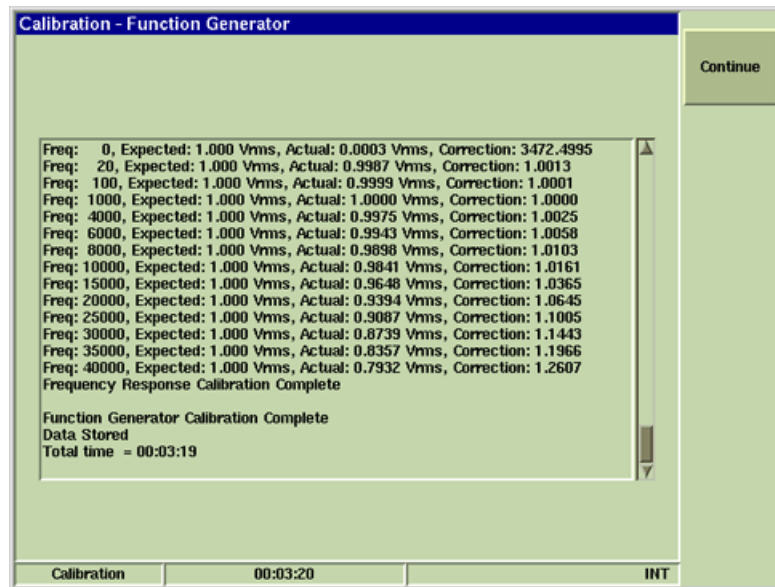

Fig. 4-36 Function Generator Calibration Complete
- When the Function Generator Calibration Procedure is complete, verify Calibration Complete is displayed in dialog box as shown in Fig. 4-36.